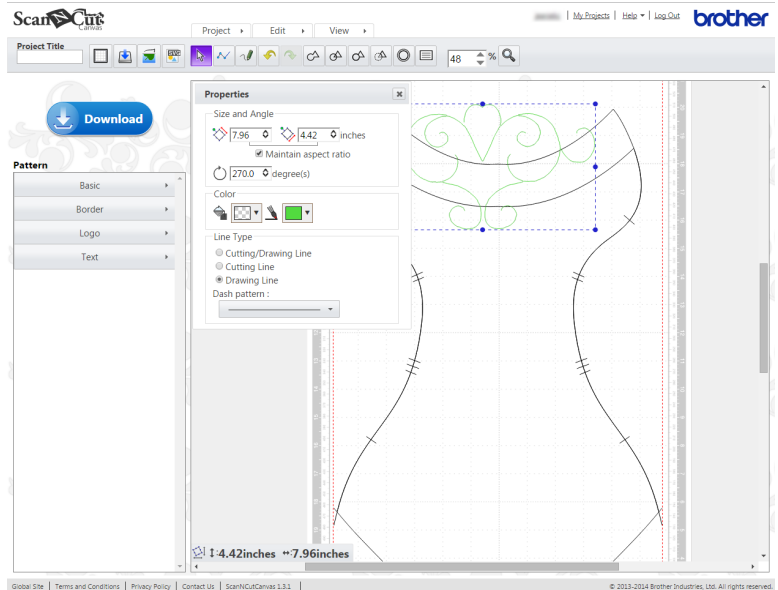

Figure 12
- Change the color to something other than black so that you can more easily differentiate it from cutting lines. (Fig. 12)